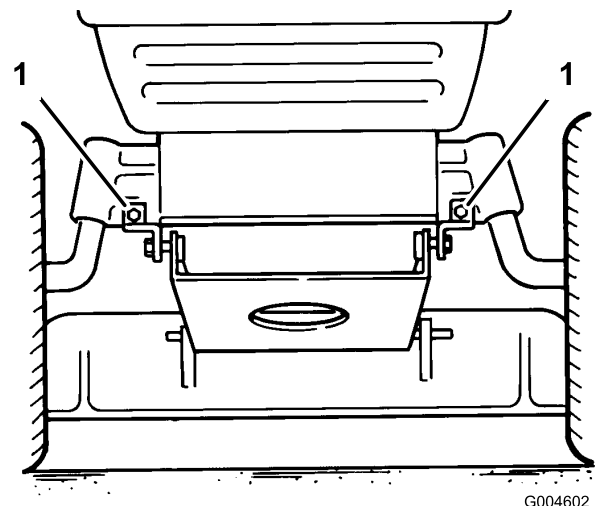

Figure 38
14. Pull the 2 mower pivot mount brackets down from the front axle (Figure 38).
11. Install the mower pivot mount brackets to the front axle with bolts and locknuts (Figure 38).